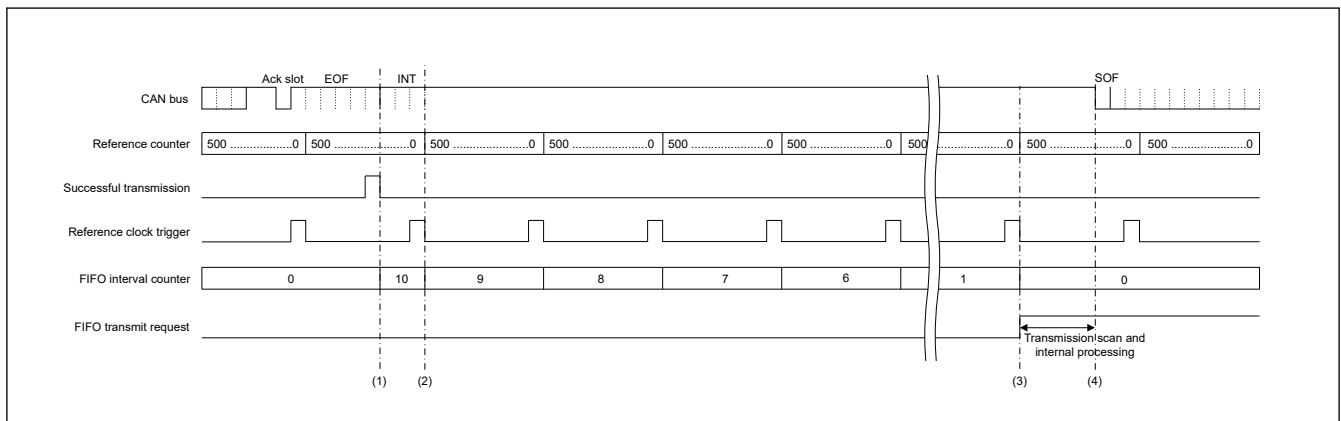

Figure 41.46 Example for interval processing time
The next message is sent at earliest after this interval time. Figure 41.46 shows an example timing of the internal processing.
The configuration for the timing in Figure 41.46 is as follows:
- Reference clock from the settings in Figure 41.46 = 10 μ s
As shown in Figure 41.46, it is not guaranteed that the minimum interval is always equal to the configured value. If a minimum time must never be breached, configure CFDCFCC.CFITT to the required minimum value plus 1.